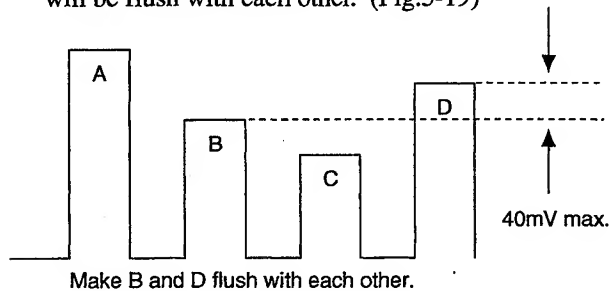

Fig. 5-19
- 2) Connect the probe of an oscilloscope to IC404 ⑩PIN or TP402.
- 4) Adjust **CHROMA PAL NOR** so that the peaks of waveforms will be flush with each other. (Fig.5-19)